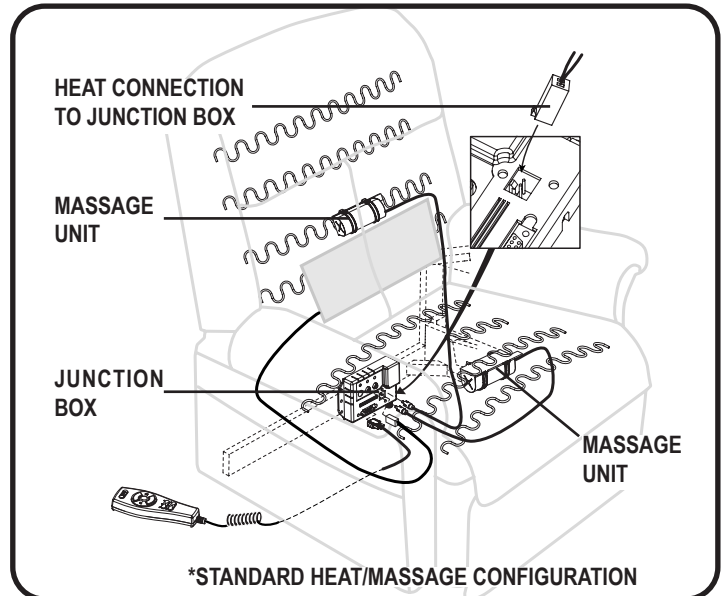

Figure 4.2 Harness Connections
4. Connect the hand control harness to the chair and heat/massage harnesses (if equipped) to the control box (fig 4.2).